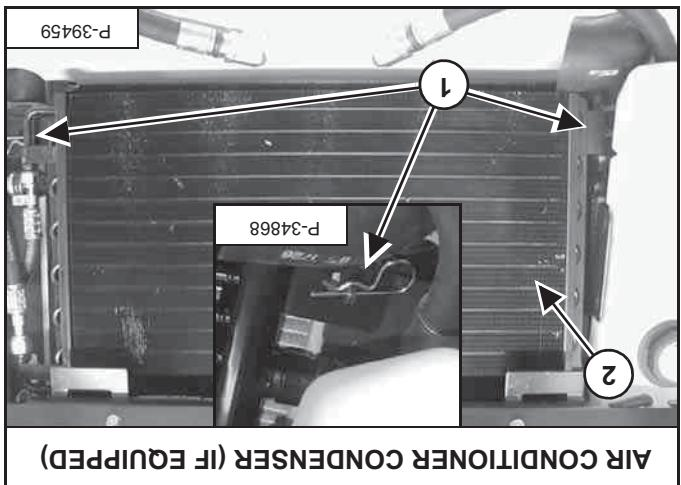

Figure 33
Lift the air conditioner condenser (item 2) [Figure 33] (if equipped) away from the oil cooler.
Remove the two fasteners (item 1) [Figure 33].